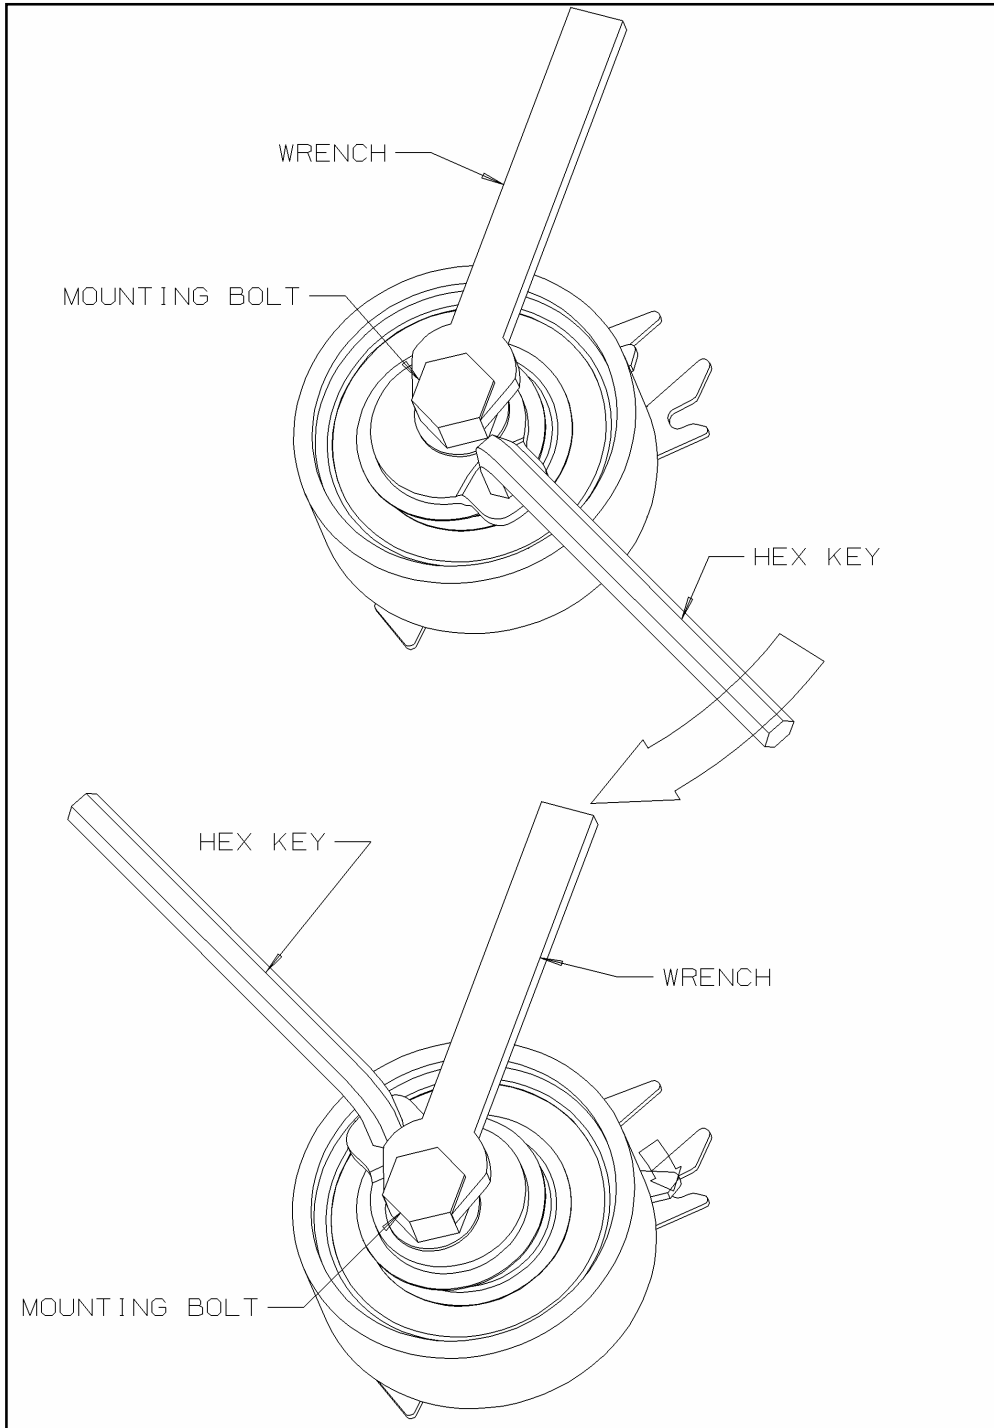

Figure 3: Adjustment of Tensioner with Hex Key
6. Rotate the Installation Shaft Washer **CLOCKWISE** with a Hex Key. Make sure to hold the mounting bolt with a Wrench in order to prevent it from turning when rotating the Installation Shaft Washer. The Tensioner assembly will move against the belt and the Arm will eventually start to move **CLOCKWISE** (See Figure 3).